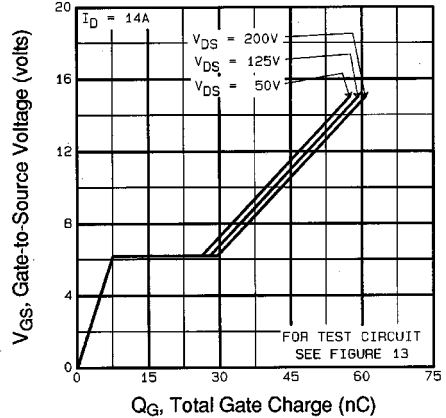

Fig 6. Typical Gate Charge Vs. Gate-to-Source Voltage
| Q_{gd} | Gate-to-Drain ("Miller") Charge | — | — | 32 | | $V_{GS}=10\text{V}$ See Fig. 6 and 13 ④ |